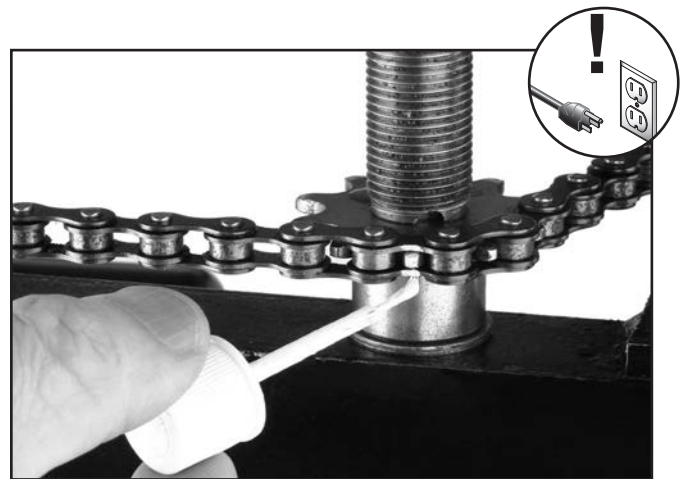

Figure 38. Marking sprocket tooth and chain.
4. At the lift screw that needs to be adjusted, mark the end of a sprocket tooth and the chain hole where that tooth is meshed, as shown in **Figure 38**.